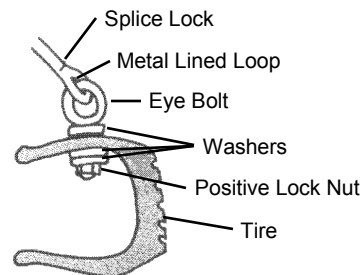

Fig. 3
5. Remove hardware from only one eye bolt at a time. Place one large diameter washer on the eye bolt (see fig. 3). Insert the eye bolt through the drilled hole in the tire, (will be tight), reach inside and place the two remaining large diameter washers, and positive lock nut on the end of the eye bolt. Tighten positive lock nut with wrench (use a ratchet if possible). Lift the rubber boot enough to put a screwdriver through the eye bolt to hold it in place at a 90 degree angle to the tire.